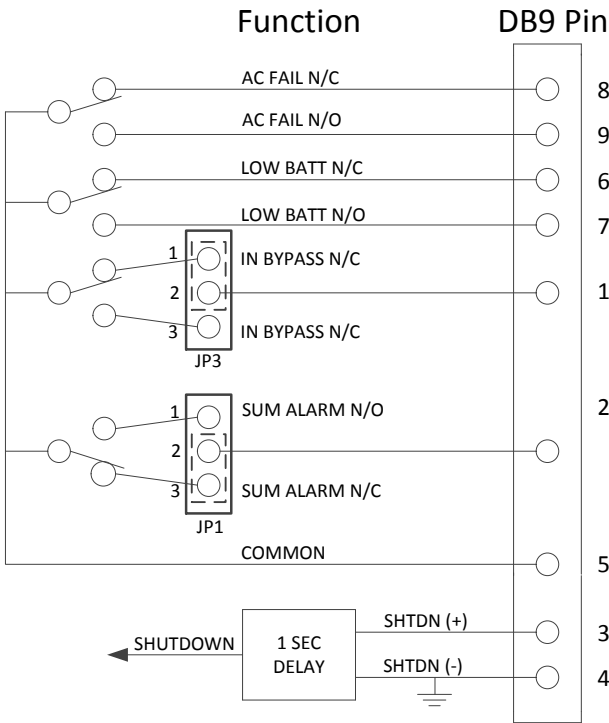

Figure B8 : Simplified Schematic of Interface Connections
- A fifth signal will turn off the UPS inverter system. This signal capability is provided for computer-based systems that can signal when the operating system has been shut down and the UPS battery backup is no longer needed by the system. This conserves any remaining battery charge for subsequent power failures that may occur before the UPS battery has been recharged. A one second delay is standard. See Figure B8 on page 40 for isolated contact interface card connector pin numbers and functions.